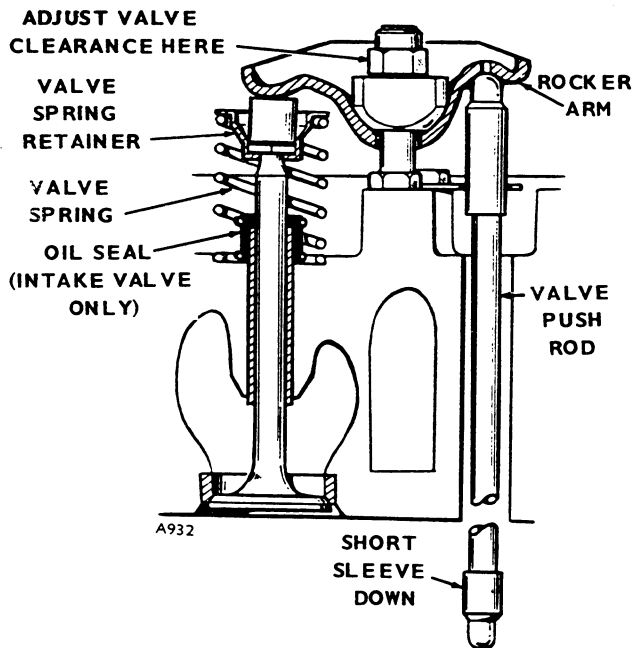

FIGURE 11. SETTING VALVE CLEARANCE
3. Cylinder head bolt torques should be 44 to 46 foot-pounds (60-62 N•m). To change the setting of valve clearance, adjust the locknut which secures the rocker arm to the cylinder head (Figure 11). Loosen the locknut to increase clearance and tighten it to reduce clearance.